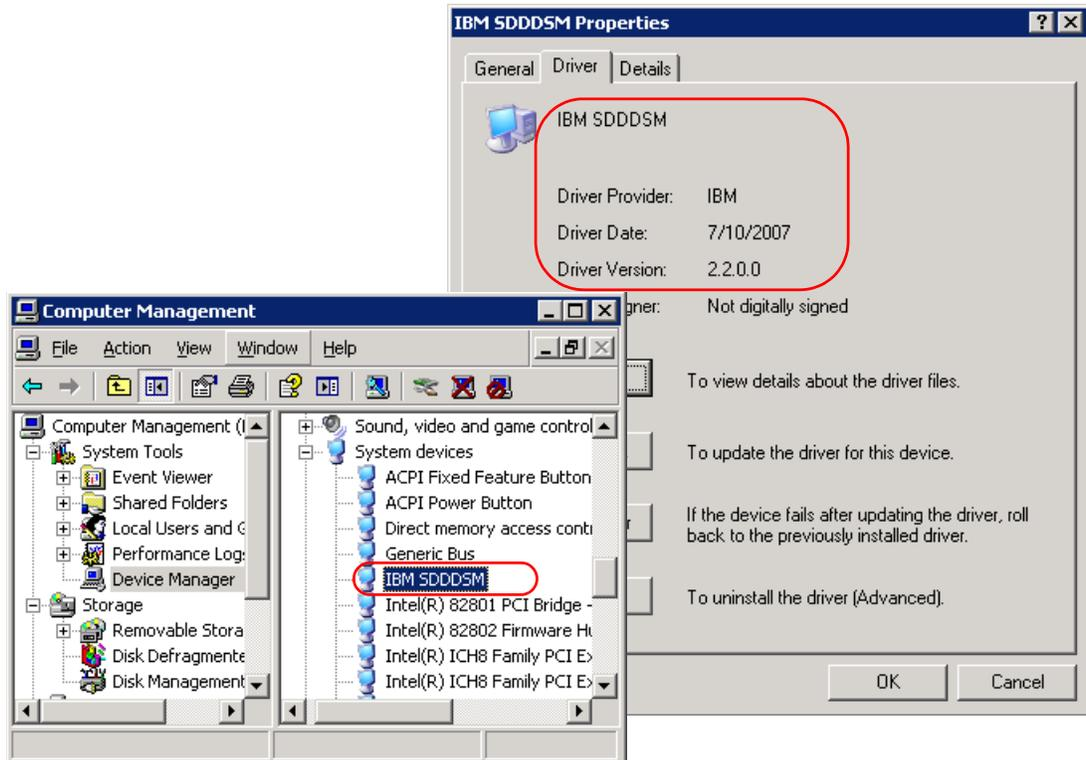

Figure 6-34 Determining device driver in use
- ▶ If you are running SDDDSM, as in the example shown in Figure 6-34, there is module under system devices identifying the driver. Select it and right-click to see the version of the driver installed.